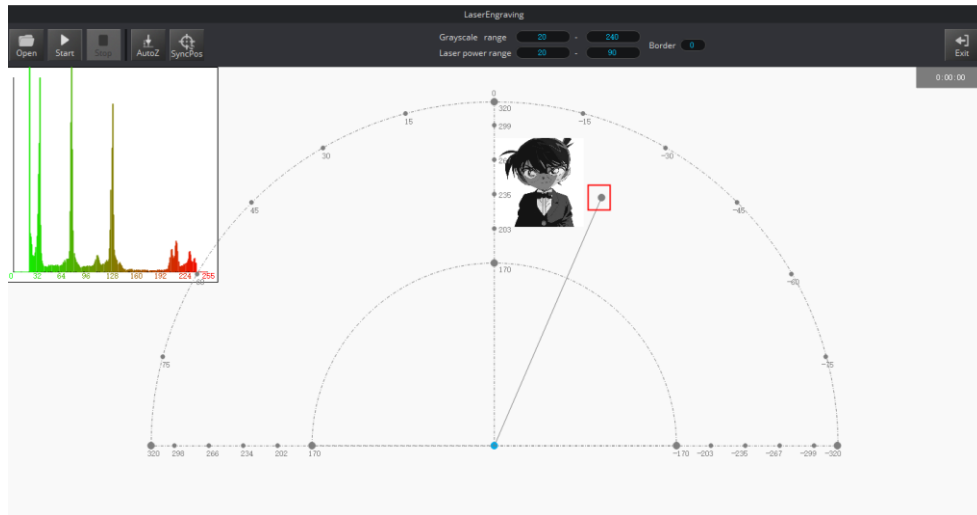

Figure 5.89 The point corresponding to the laser kit of the robotic arm
- The point marked by a red box, as shown in Figure 5.89, corresponds to the position of the laser kit of the Dobot Magician. This point changes its position only within the annular area when the robotic arm moves.